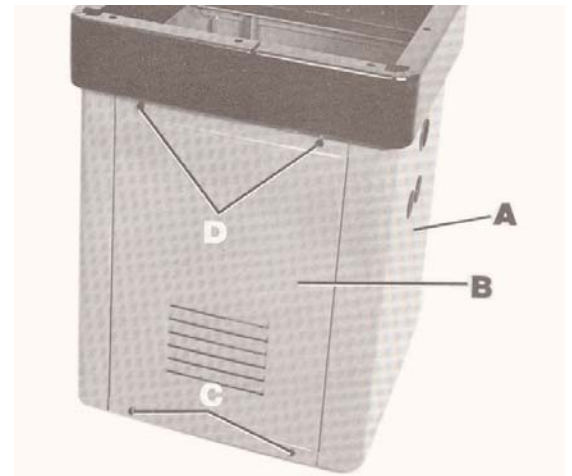

Fig. 1
1. Remove the stand (A) from the shipping container being careful not to crimp the switch cord which extends through the top of the stand. NOTE: Set the stand on several blocks of wood to raise the stand off the floor surface.
2. Remove panel (B) Fig. 1, from stand (A) by removing two screws (C) and loosening two screws (D). Remove panel on opposite side of stand in the same manner.